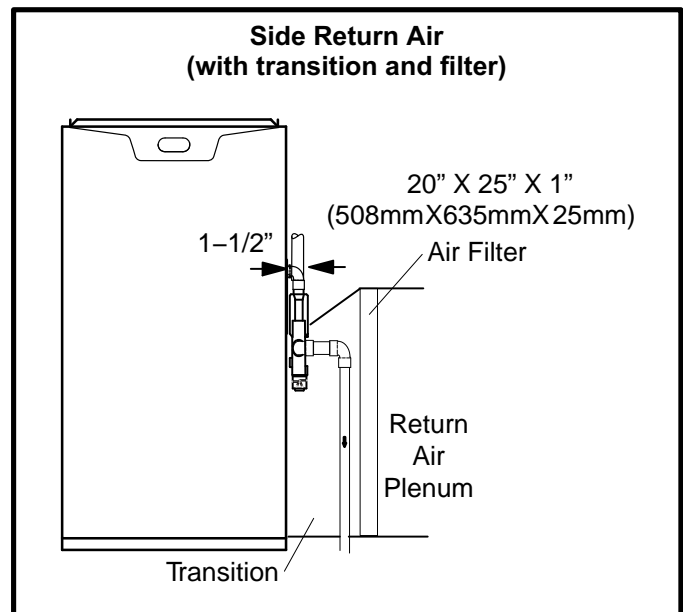

FIGURE 13
**EL296UHV applications which include side return air and a condensate trap installed on the same side of the cabinet (trap can be installed remotely within 5 ft.) require either a return air base or field-fabricated transition to accommodate an optional IAQ accessory taller than 14.5". See figure 13.**